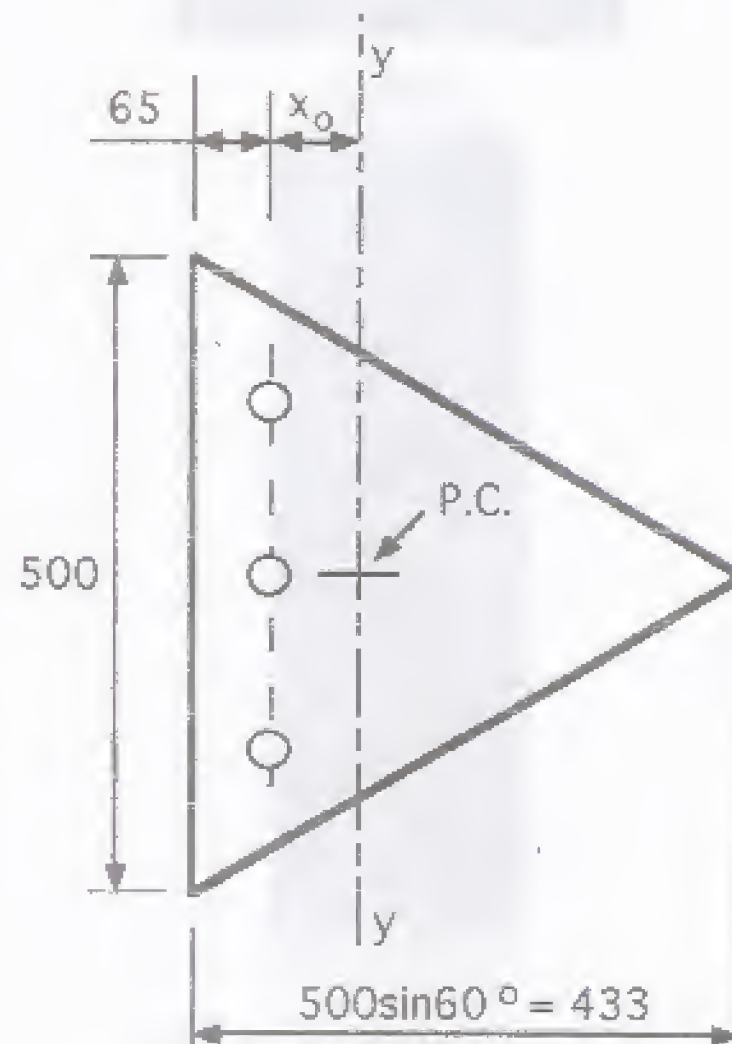

Fig. 1
3. An equilateral triangular column cross section (Fig. 1) has $f'_c = 30$ MPa (normal density concrete and is reinforced with 3 - No. 25 bars ($f_y = 300$ MPa). Small diameter confinement bars (not shown in the figure) and ties provide the necessary confinement to the concrete to satisfy A23.3-94 requirements for columns; however, these confinement bars are *not* to be considered in any calculations. Any bending is to be considered about the y-y axis only.